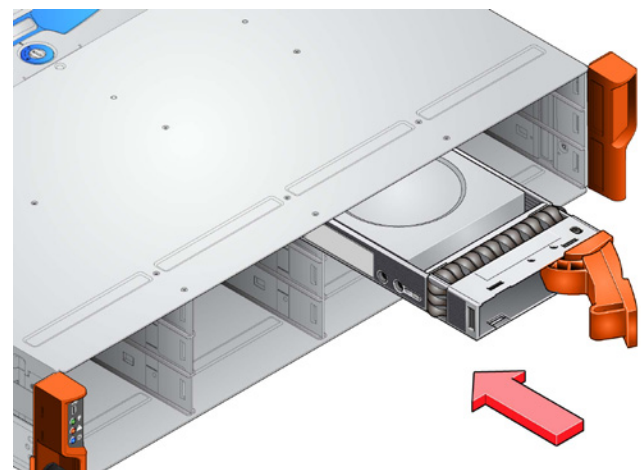

Fig. 41 - Installing a Drive Carrier Module (2)
2. Insert the drive carrier into the enclosure (Fig. 41).
IMPORTANT INFO: Make sure that the carrier is orientated so that the drive is uppermost and the handle opens from the left, as shown in Fig. 41.